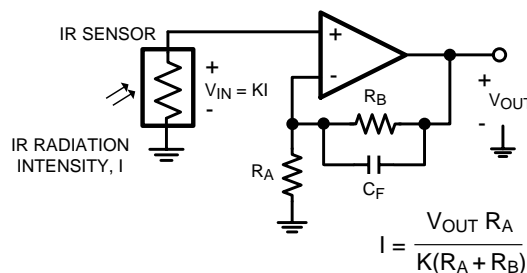

Figure 59. IR Radiation Sensor
The low input bias current and low input referred noise of the LMV796 and LMV797 make them ideal for sensor interfaces. These circuits are required to sense voltages of the order of a few  $\mu\text{V}$  and currents amounting to less than a nA hence, the op amp needs to have low voltage noise and low input bias current. Typical applications include infra-red (IR) thermometry, thermocouple amplifiers and pH electrode buffers. Figure 59 is an example of a typical circuit used for measuring IR radiation intensity, often used for estimating the temperature of an object from a distance. The IR sensor generates a voltage proportional to  $I$ , which is the intensity of the IR radiation falling on it. As shown in Figure 59,  $K$  is the constant of proportionality relating the voltage across the IR sensor ( $V_{IN}$ ) to the radiation intensity,  $I$ . The resistances  $R_A$  and  $R_B$  are selected to provide a high gain to amplify this voltage, while  $C_F$  is added to filter out the high frequency noise.